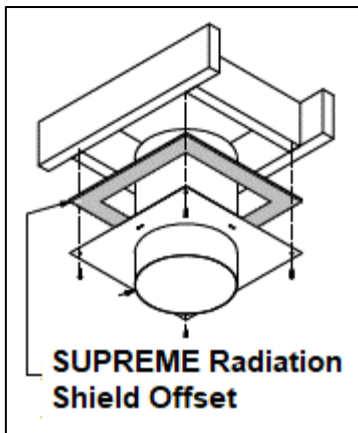

Figure 2-8: SUPREME Radiation Shield Offset
The SUPREME Radiation Shield Offset is a standard component for the Astra 38 fireplace (Figure 2-8). Prior to installing the chimney manufacturer's radiation shield, the SUPREME Radiation Shield Offset is fastened below the chimney opening within the chase, with the flanges along the component providing a $\frac{1}{2}$ " offset.
2. For an installation with the chimney running through the ceiling, install the SUPREME Radiation Shield Offset below the chimney opening prior to installing the radiation shield (refer to Figures 2-8 and 3-7).